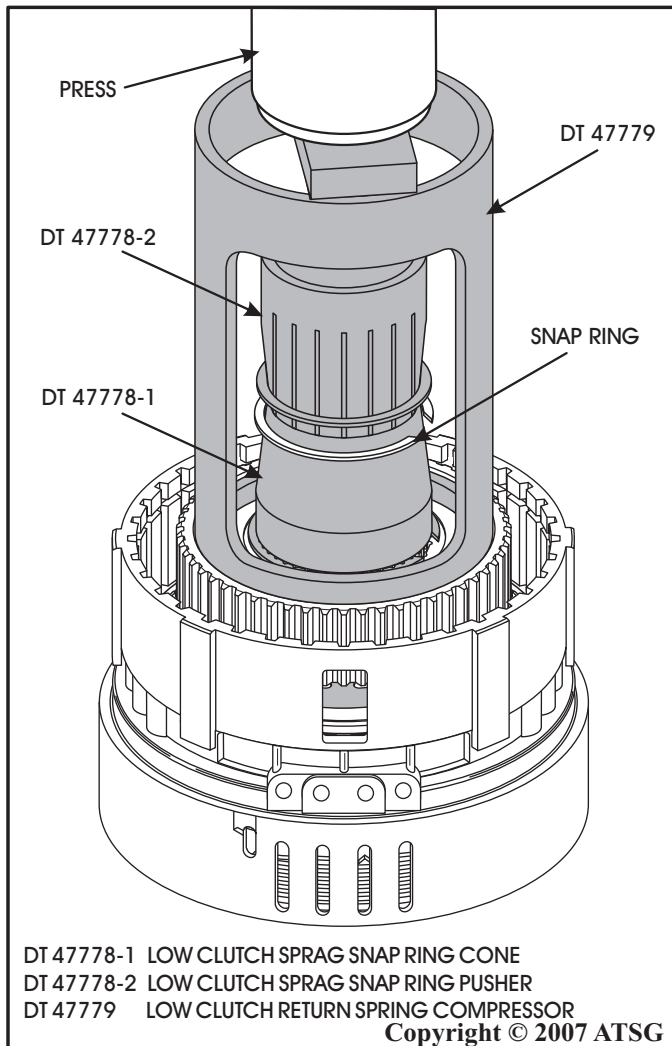

Figure 113
20. Compress the low sprag assembly using the compression tool DT-47779, as shown in Figure 113.
21. Install **new** low sprag retaining snap ring using the installation tool, as shown in Figure 113.